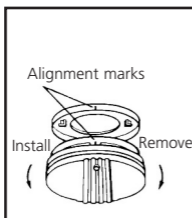

FIGURE 8
6. Alignment marks are provided on the edge of the trim plate and the alarm. After installing the mounting plate, place the alarm on the mounting plate with the alignment marks lined up. Twist the alarm in the direction indicated by the "ON" arrow on the alarm cover (see FIGURE 8) until it locks in place.
If tamper resist pin has been used, refer to TAMPER RESIST LOCKING PIN in section 3 for removal instructions. To replace the battery, remove the alarm from the mounting plate by rotating the alarm in the direction of the "OFF" arrow on the cover (see FIGURE 8).